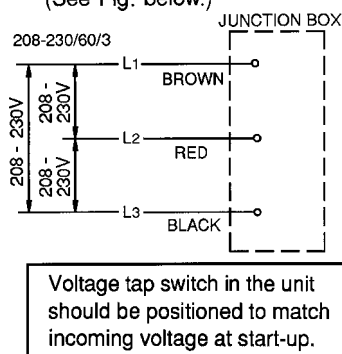

Fig. 6
- On three phase models, the Voltage Tap Switch in the unit should be positioned to match incoming voltage at start-up. See Fig. 6.